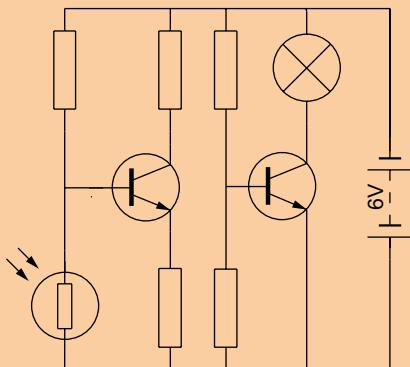

Fig. 9.18 Example using the DesignCenter
Using the DesignCenter (Fig. 9.18)
6. Complete the circuit drawing as shown in Fig. 9.18.
Fig. 9.18 does not represent an authentic electronics circuit.